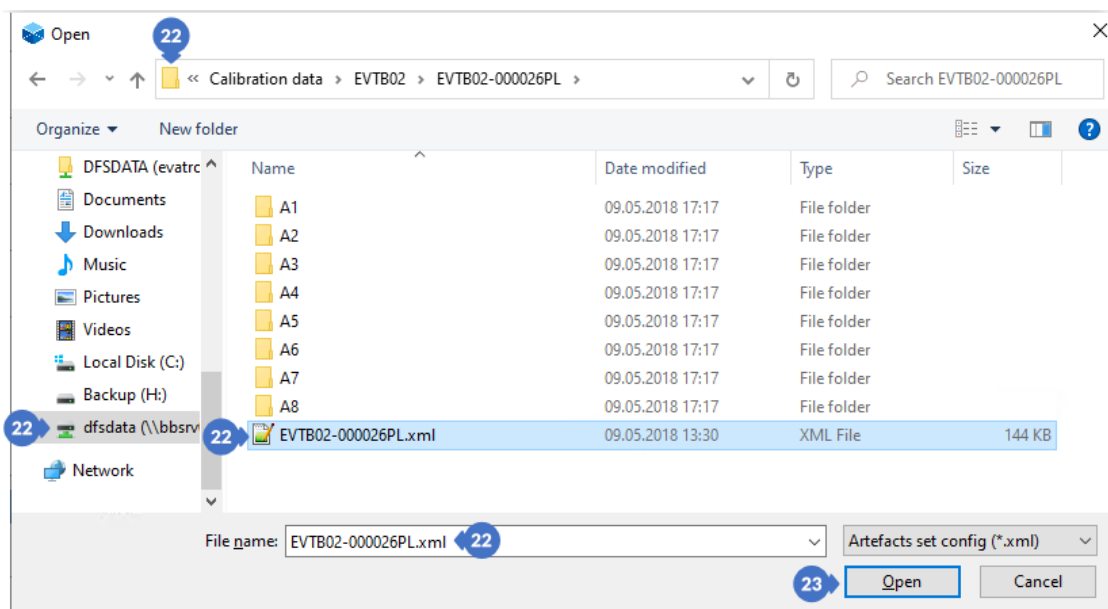

Figure 106. Import artefact file
(21) – *IMPORT* button that opens a window for importing artefact files. The artefact files have the extension .xml. To import, select a file (22) in the window and click on *Open* (23) to add the artefact file to the list (Figure 106).